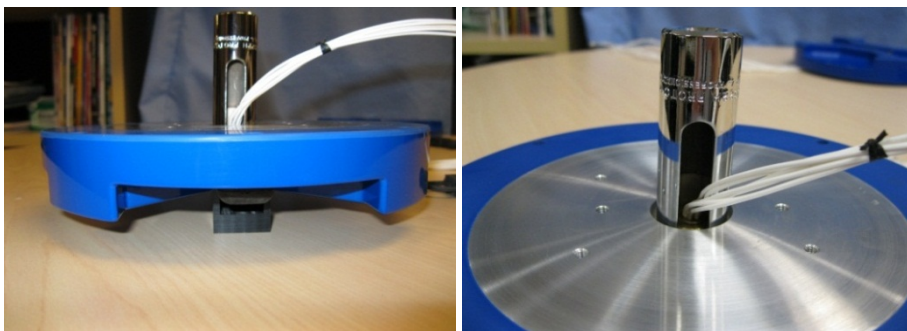

Figure 55. Lock Nut Removal Socket
11. Flip the End-Cap assembly over and insert the slotted socket onto the lock nut. Fit the cable wires into the socket's clearance slot (see Figure 55).